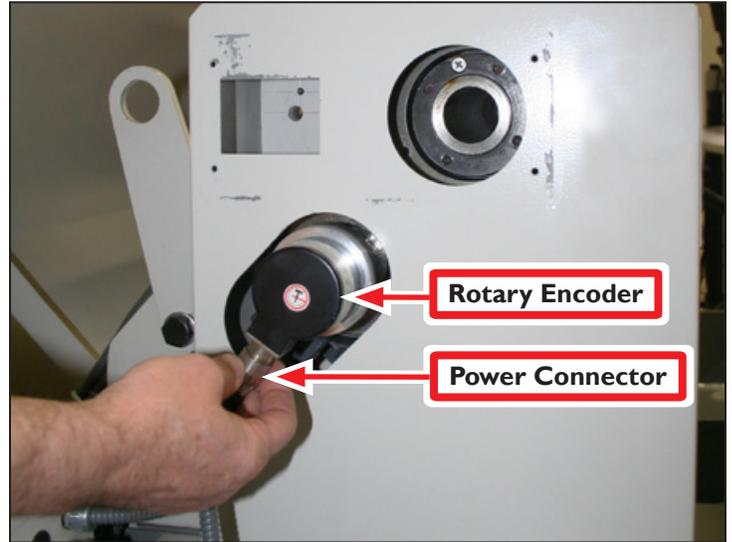

Figure 2
2. Unscrew Power Connector from Rotary Encoder (see **Figure 2**).